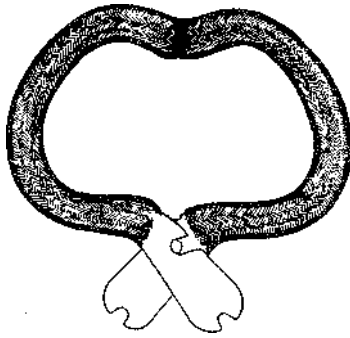
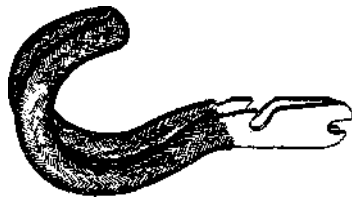

Fig. 12—Pair of Sleeved Blades-Unfolded
Fig. 13—Pair of Sleeved Blades-Folded
(4) Push the clean sleeving over the blade so it is held securely by the notches in the blade. Then pull the sleeving toward the tip of the blade to stretch it tightly on the blade. Push the other end of the sleeving over the other blade of the pair in a similar manner. Make sure that the sleeving is equally distributed on each blade and that the tips of the blades, when in the position shown in Fig. 12, are in contact. Then fold each pair of blades together as shown in Fig. 13. Insert them in the handle from the rear (the code number of the tool is on the front of the handle), so the slots in the lower ends of the blades engage the anchor pin. Swing the blades forward until the ends of the upper slots in the blades are in contact with the screw in the handle. Make sure the sleeving is taut.
(5) Remount the blade support with the anchor pin engaging the hole in the end of the support. Then force the support forward under